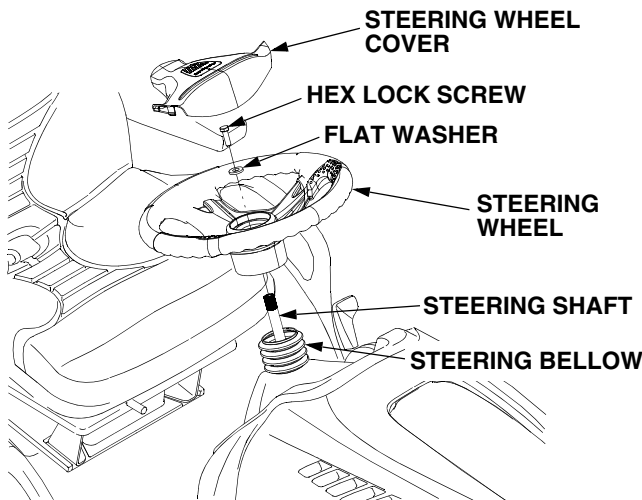

Figure 1
1. Locate the steering bellow and note the riser at one end of the bellow. With the riser facing upward, slide the bellow onto the steering shaft. See Figure 1.
4. From the operator's seat, rotate the steering wheel so that the spokes of the wheel are in the basic 'T' position. Align the splines of the steering wheel hub with the splines of the steering shaft and press the steering wheel onto the shaft. See Figure 1.